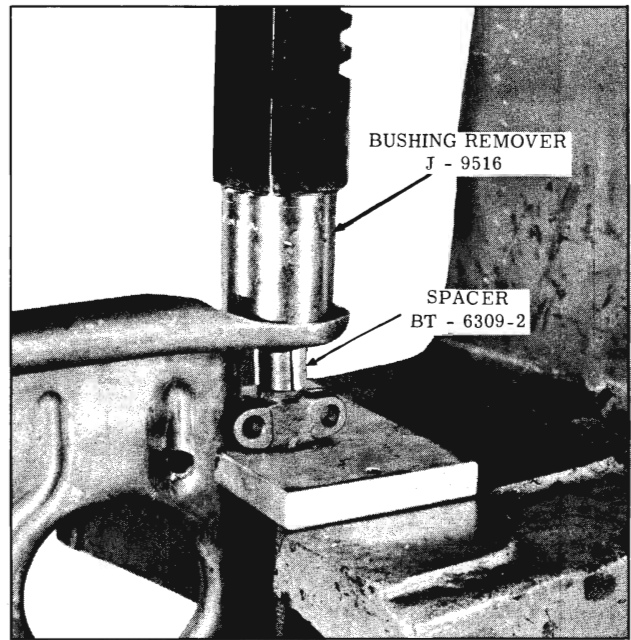

Fig. 5-24 Pivot Shaft Bushing Removal
6. Place control arm assembly in press as shown in Figure 5-24 and finish pressing bushing from control arm.